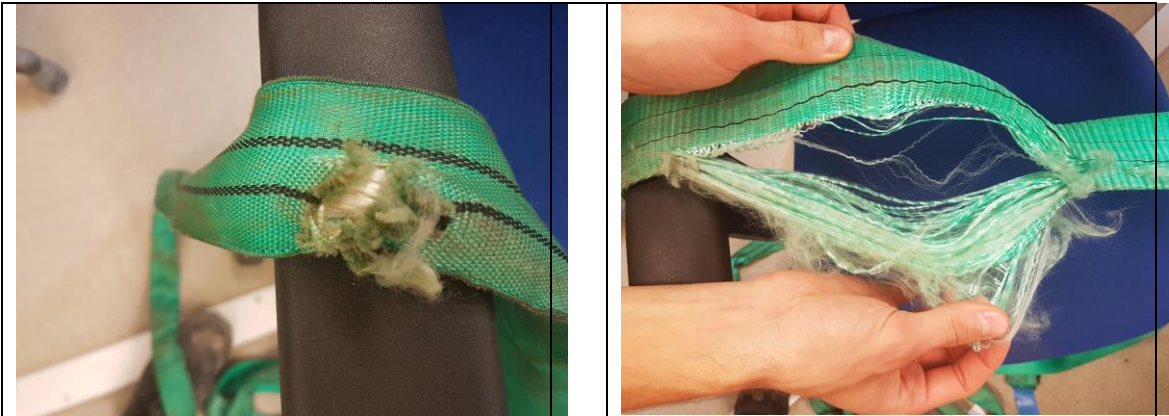

Figure 1 - Examples of loads arriving on site with damaged lifting slings
- a. To reduce the need for work at height by reducing the exposure time when the slinger/signaller accesses the truck bed to carry out pre-use checks of the lifting accessories before the load is lifted, compared with the greater time required to attach slings to the load on the truck bed. These pre-use checks are of particular importance as pre-slung lifting accessories can become damaged during transit (see **Figure 1**).